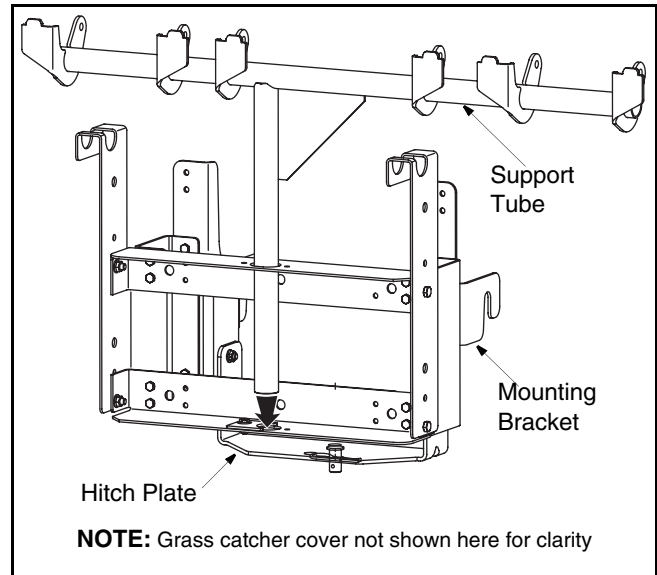

Figure 3
- Place the grass catcher cover assembly's support tube in position on the rear of unit by sliding the support tube down through the center hole in the mounting bracket assembly. See Figure 3.